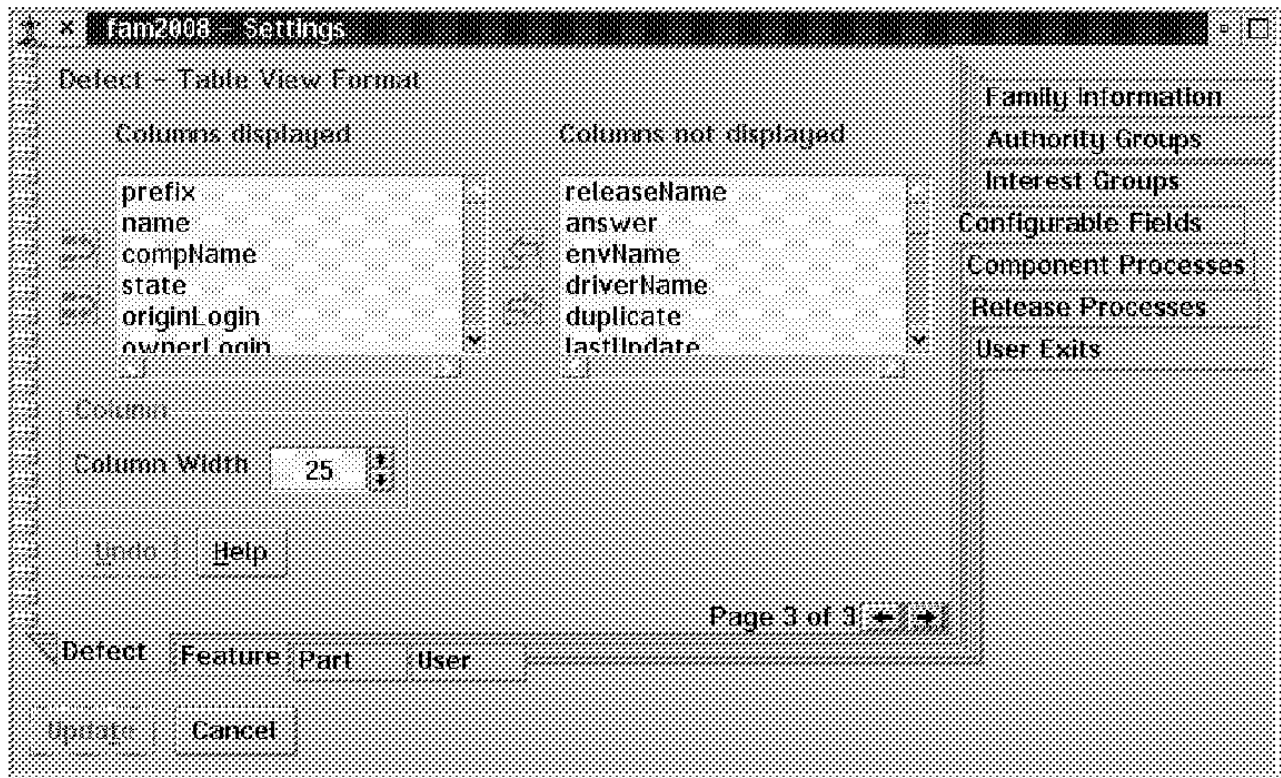

Figure 183. Table View Format Page
1. From the **Defect**, **Feature**, **Part**, or **User** page (see Figure 177 in topic 12.4.3.2, Figure 178 in topic 12.4.3.3, Figure 179 in topic 12.4.3.4, or Figure 180 in topic 12.4.3.5), use the right arrow at the bottom-right corner of the notebook page to access the **Table View Format** page (see Figure 183). Select the arrow twice for the table report format.
1. From the **Defect**, **Feature**, **Part**, or **User** page (see Figure 177 in topic 12.4.3.2, Figure 178 in topic 12.4.3.3, Figure 179 in topic 12.4.3.4, or Figure 180 in topic 12.4.3.5), select the right arrow in the bottom right corner of the notebook page twice to access the **Table View Format** page (see Figure 183).